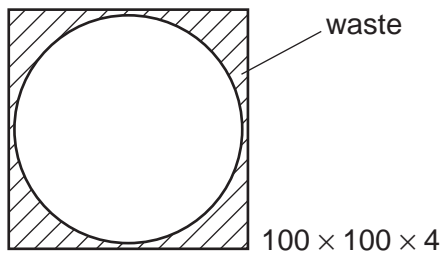

Fig. 7
- (b) Fig. 7 shows the base of the game marked out.